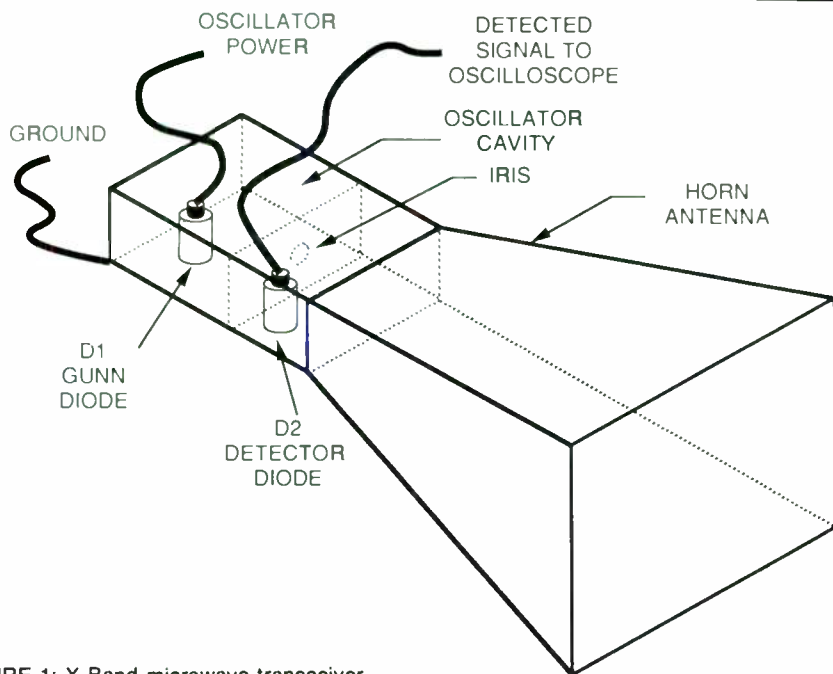

FIGURE 1: X Band microwave transceiver.
**X BAND TRANSCEIVER.** Figure 1 is a diagram of a microwave transceiver